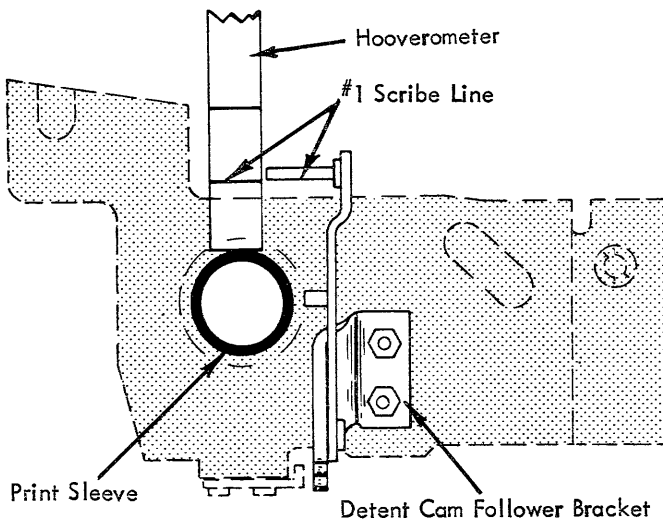

FIGURE 54B. Detent Cam Follower Bracket
- b. Vertically so that the bottom surface of the pin on the cam follower lines up with the scribe line #1 on the Hooverometer when the Hooverometer is placed against the print sleeve as shown in Figure 54B.